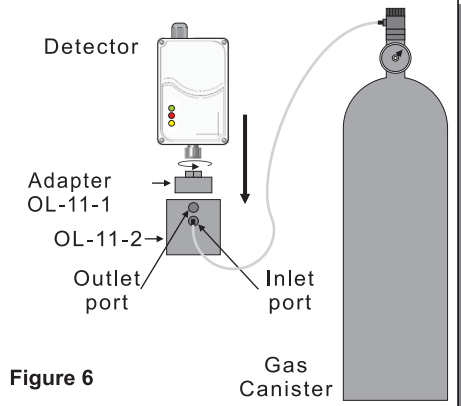

Figure 6
-For the calibration procedure using a reference gas, the OL-11 calibration kit is required. (figure 6).
3. In its position install the accessory OL-11-2 of the calibration kit OL-11 (figure 6).
4. Install the part OL-11-2 on the part OL-11-1 (figure 6).